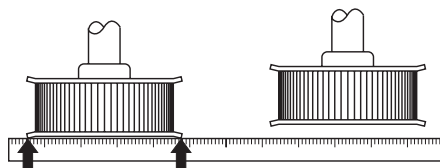

Figure 4 — Parallel Misalignment
**Parallel:** Parallel misalignment results from sprockets being mounted out of line from each other (see Fig. 4). Parallel misalignment is generally more of a concern with V-type belts than with synchronous belts because V-type belts run in grooves and are unable to free float on the sheaves. Synchronous belts will generally free float on the sprockets and essentially self align themselves as they run. This self aligning can occur so long as the sprockets have sufficient groove face width beyond the width of the belts. If not, the belts can become trapped between opposite sprocket flanges causing serious performance problems. Parallel misalignment is not generally a significant concern with synchronous drives so long as the belts do not become trapped or pinched between opposite flanges. For recommendations on sprocket groove face width, see Table 23 on Page 75.